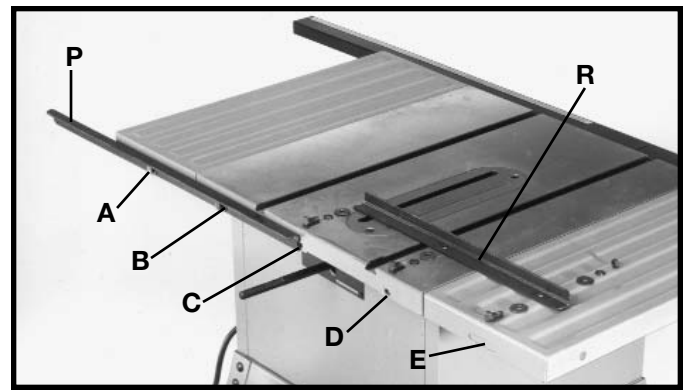

Fig. 18
5. Align the holes in the longer section of rear guide rail (P) Fig. 18, with holes (A), (B), and (C) in the saw table. Place a M8.1 lockwasher then a M8.4 flat washer onto a M8x1.25x16mm hex head screw. Insert the screw through the hole (A) Fig. 18, in the rear guide rail. Place a M8.4 flat washer and a M8.1 lockwasher onto the hex head screw. Thread a M8x1.25 hex nut onto the hex head screw. **NOTE: TIGHTEN HARDWARE JUST ENOUGH TO HOLD RAIL IN PLACE AT THIS TIME.**
6. Place a M8.1 lockwasher and a M8.4 flat washer onto a M8x1.25x16mm hex head screw. Insert the screw through the holes (B) and (C) Fig. 18, in the rear guide rail and thread into the tapped hole in the saw table. **NOTE: TIGHTEN HARDWARE JUST ENOUGH TO HOLD RAIL IN PLACE AT THIS TIME.**
7. Align the holes in the shorter section of rear guide rail (R) Fig. 18, with holes (D) and (E) in the in the saw table. Place a M8.1 lockwasher and a a M8.4 flat washer onto a M8x1.25x16mm hex head screw. Insert the screw through the hole (E) Fig. 18, in the rear guide rail. Place a M8.4 flat washer and a M8.1 lockwasher onto the hex head screw. Thread a M8x1.25 hex nut onto the hex head screw. **NOTE: TIGHTEN HARDWARE JUST ENOUGH TO HOLD RAIL IN PLACE AT THIS TIME.**
8. Place a M8.1 lockwasher and a M8.4 flat washer onto a M8x1.25x16mm hex head screw. Insert the screw through the hole (D) Fig. 18, in the rear guide rail and thread into the tapped hole in the saw table. **NOTE: TIGHTEN HARDWARE JUST ENOUGH TO HOLD RAIL IN PLACE AT THIS TIME.**